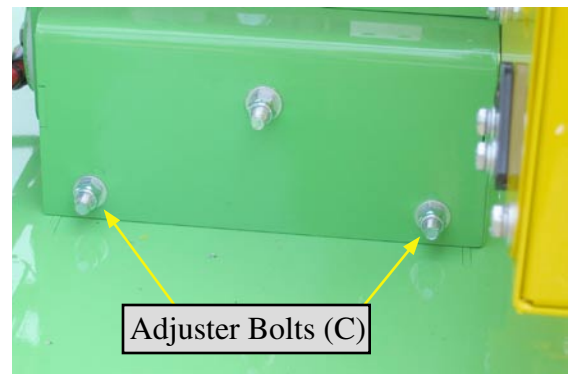

figure 5.1E
3. To tighten or install the belt, make sure the two pulleys are lined up. Use a straight edge to make sure (FIG 5.1E). If the pulleys are not lined up loosen one of the pulleys and move the pulley in or out until the two pulleys line up.